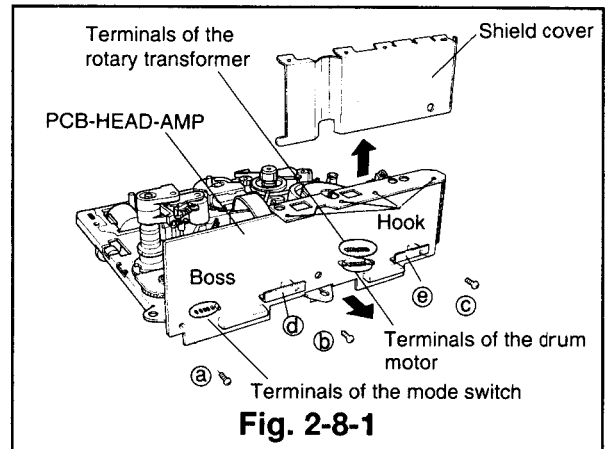

Fig. 2-8-1
- ① Unfasten the hook and raise the head amp shield cover shown in Fig. 2-8-1 to remove it.
- ② Unsolder the terminals of the mode switch, the drum motor, and the rotary transformer shown in Fig. 2-8-1.
- ⑥ Remove the three screws (a, b and c) and slowly pull the PCB-HEAD-AMP in the direction shown by the arrows. (Refer to Fig. 2-8-1.)
- ① Insert the terminals of the mode switch, the drum motor, and the rotary transformer, and the boss, adjacent to the mode switch, in the matching holes on the PCB-HEAD-AMP and secure the PCB-HEAD-AMP with the three screws (a, b and c) in the order, b → c → a. (Refer to Fig. 2-8-1)
- ② Solder the pins mentioned in Item ①.